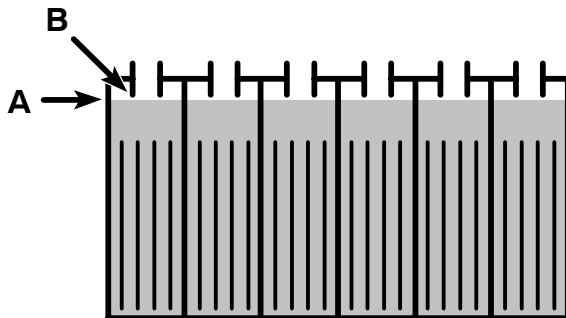

FIG. 27
- Lead Acid Batteries: After charging, check the electrolyte level (A) again. The level should be approximately 1 cm from the bottom of the fill-port (B) (Figure 27). Add distilled water if needed. **DO NOT OVERFILL.**